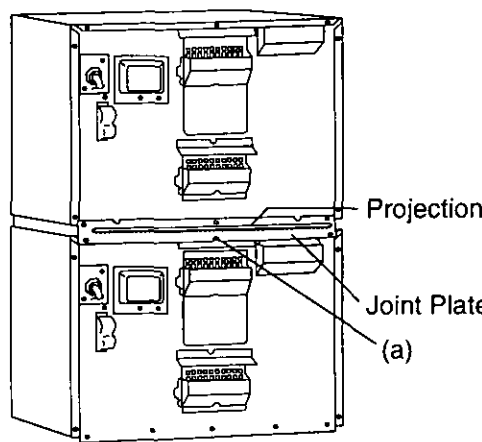

Fig. 2
3. Place PANASONIC Joint Plate on the screw (a). See Fig. 2.